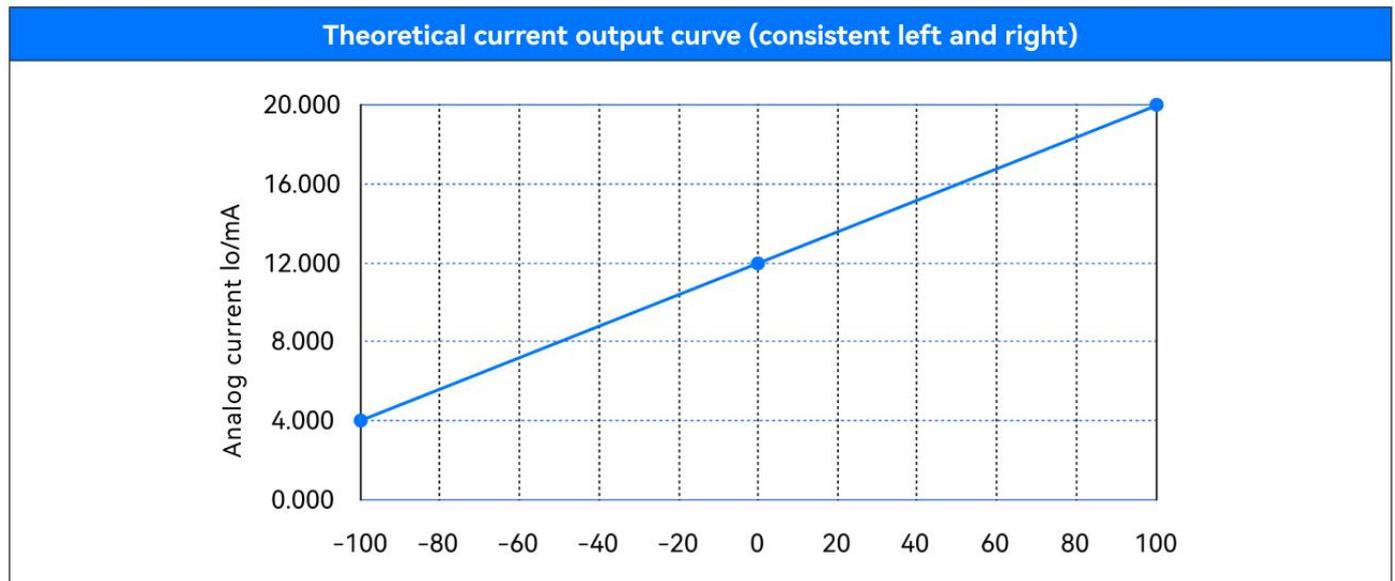

Figure 2.5
In general, the corresponding relationship of output signals is as follows: scale -100% corresponds to 4mA output, scale 0 corresponds to 12mA output, and scale +100% corresponds to 20mA output, as shown in Figure 2.5.
4. After the handle is installed on the mounting plate, Figure 2.5 shows the electrical cables. After the wiring is completed, it should be confirmed that the external wiring is firm and reliable.